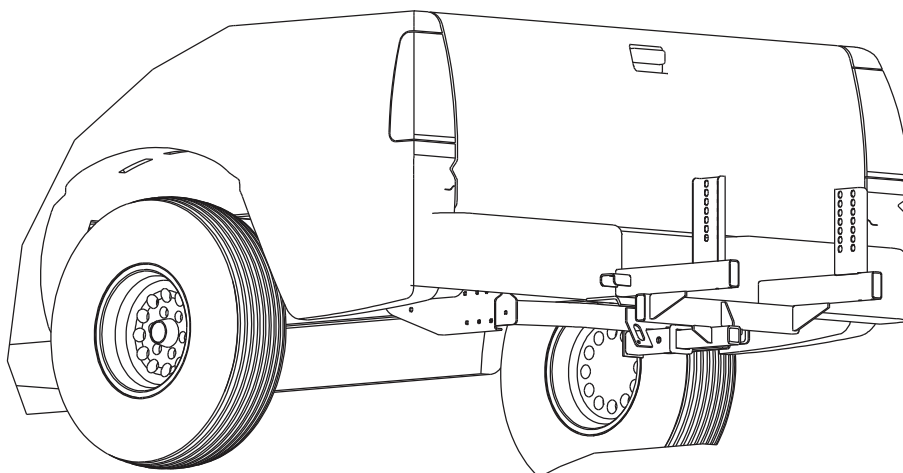

Fig. 1
1. Slide frame #3019400 into hitch receiver. Fig.1.